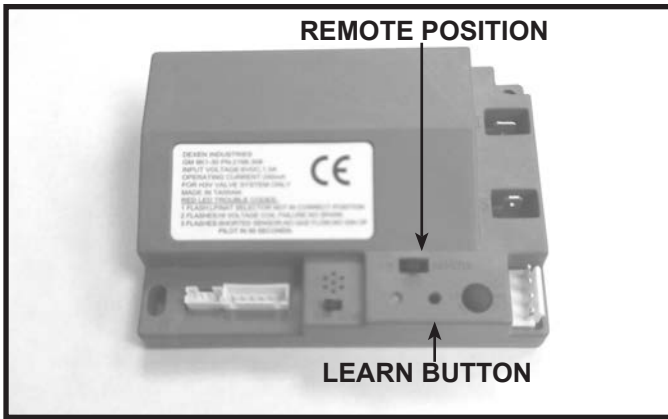

Figure 3.13 Programming RC300AU
- Using a small item (such as a paper clip) press and release the LEARN button located near the ON/OFF/REMOTE switch. See Figure 3.13.